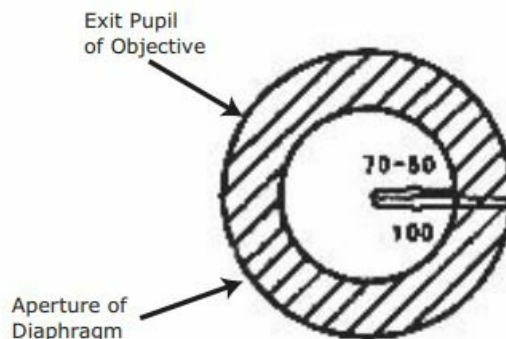

Fig. 2 - Condenser Diaphragm Aperture
4. Adjust the aperture of the iris diaphragm in the condenser to 70% or 80% for the best contrast for observation (See Fig. 2.).